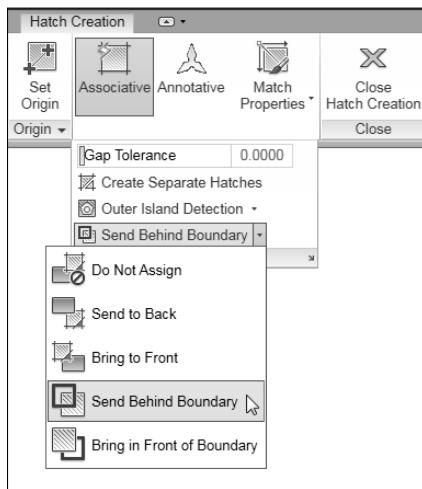

Figure 15-3:
- By default, when you select a number of closed areas and then press Enter, the hatched areas will be created as a single object; choose Create Separate Hatches on the Options slideout panel if you want to be able to modify each hatched area individually. Set the Draw Order drop-down list to specify whether the hatch objects are in front of or behind the hatch boundary or other drawing objects (see Figure 15-3).